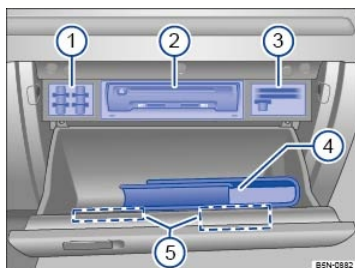

Fig. 145 Inside the glove compartment.
Key to ⇒ Fig. 145 :
Vehicles equipped with an Infotainment system may have a CD player, SD card readers, or other Infotainment system accessories ⇒ Fig. 145② in the glove compartment. See ,Chapter *Infotainment System* for further information.
Depending on vehicle equipment, there may be holders for SD cards ⇒ Fig. 145①, other types of cards ③, and a coin holder in the upper part of the glove compartment.